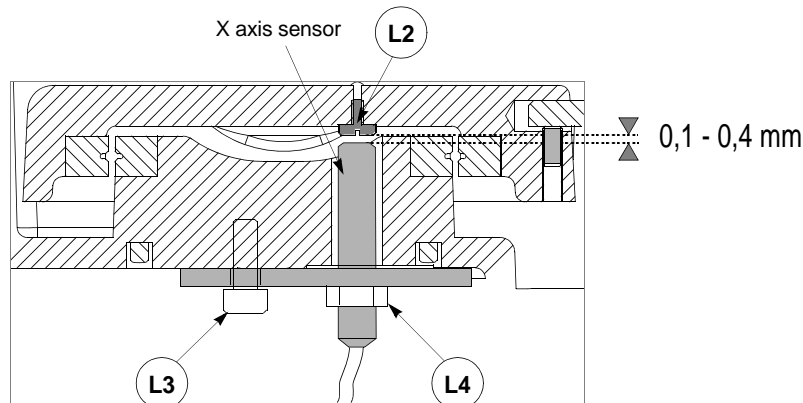

Fig. 143
- 6) fit the new sensor in position, tightening it until it almost touches the (L2) screw (fig. 143) thus securing it with the (L4) nut.